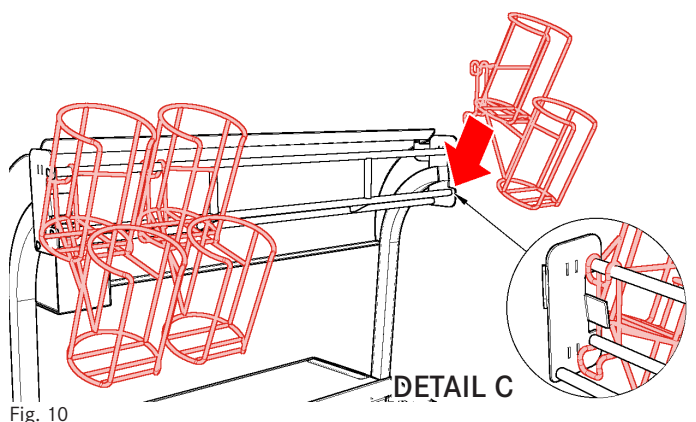

Fig. 10
Place three (3) lid holders onto upper rail. Rest hooks at back of each holder onto rail to secure in place (Fig. 10).